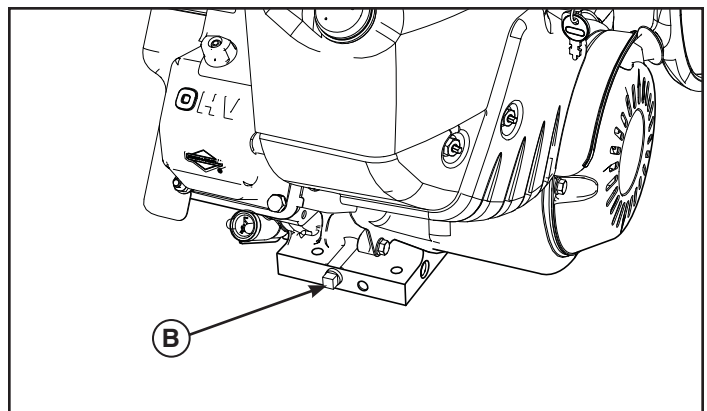

Figure 12
2. Tilt the unit back slightly, then remove the oil drain cap (B, Figure 12). Drain the oil into an approved receptacle.